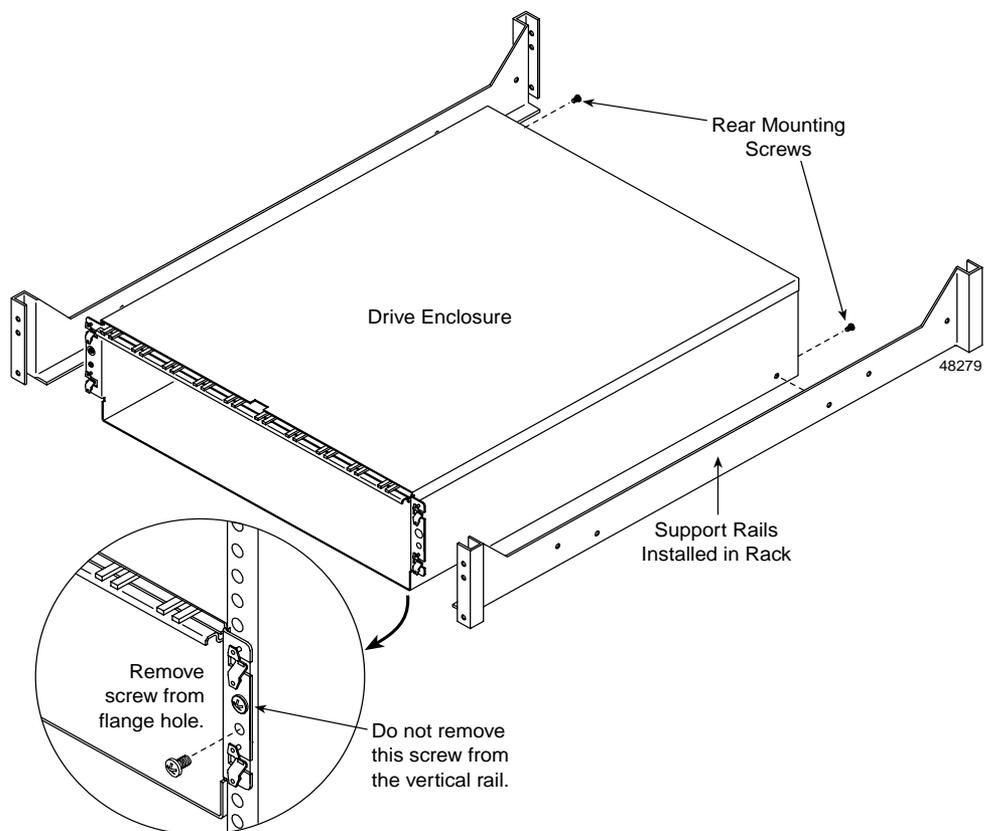

Figure 6-7 Removing the Empty Drive Enclosure
3. Remove the front and rear mounting screws (Figure 6-7). There are two mounting screws at the rear, one for each support rail, and two mounting screws in the front, one in each flange.
2. From the front of the rack, slide the drive enclosure into the rack along the support rails (Figure 6-7).
3. Fasten the rear and front mounting screws (Figure 6-7).